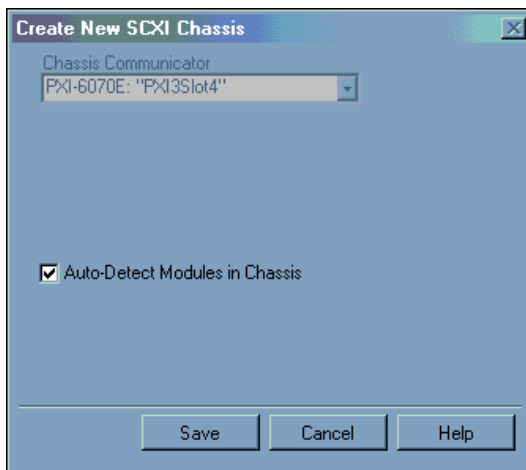

Figure 2-7. Auto-Detection of Modules in SCXI Chassis
- Select whether or not to auto-detect SCXI modules as shown in Figure 2-7. If you do not auto-detect modules, MAX disables Communicating SCXI Module Slot.